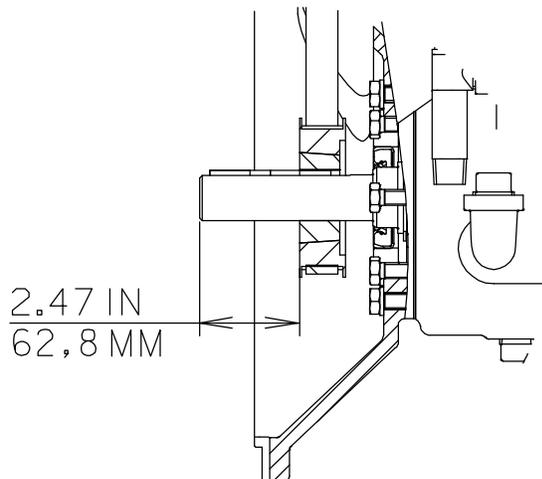

Figure 8. Drive Sprocket Positioning
See Figure 4 and install the key (41) in the shaft keyway, making sure to leave room in the keyway for the drive key (42). Install the sprocket (43) and bushing (40) on the shaft to the dimension shown in Figure 8.